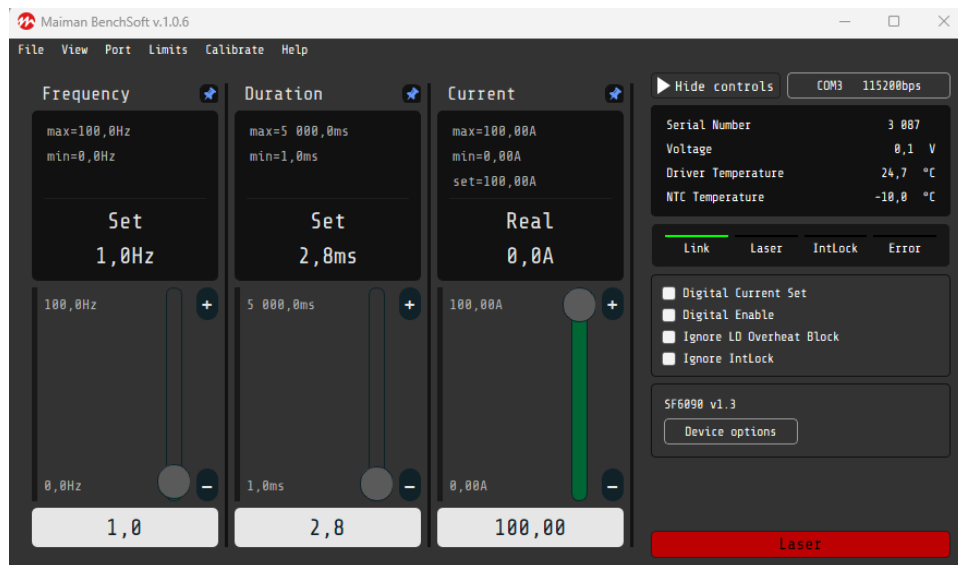

Figure 8. MAIMAN BENCHSOFT software program settings
- Click on Disconnected button. Software connects to driver unit and software window changes. See the Figure 8.